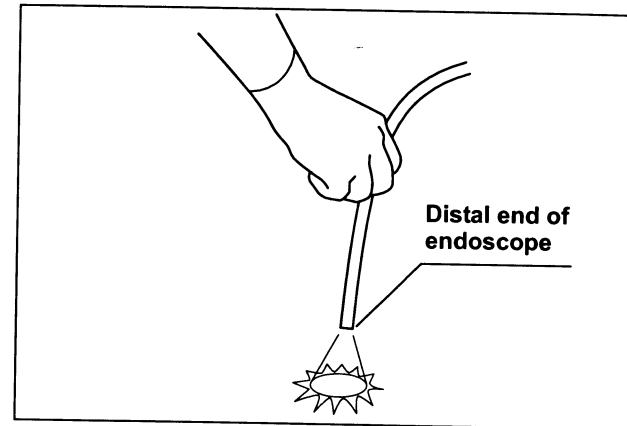

Figure 3.15
- Brightness is set to maximum for manual brightness control (see Figure 3.15).